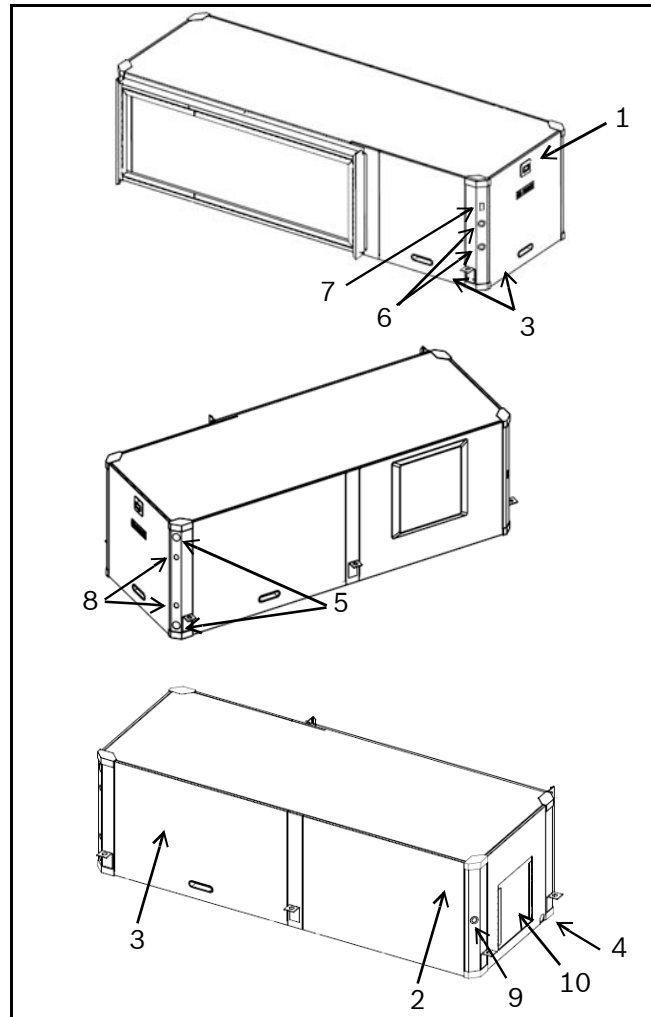

Fig. 2
The basic Horizontal (HZ) unit layout and connections are shown in Fig. 2. Refer to Dimensional Drawings for further detail, as well as Vertical (VT) unit details. See page #63 to page #65.